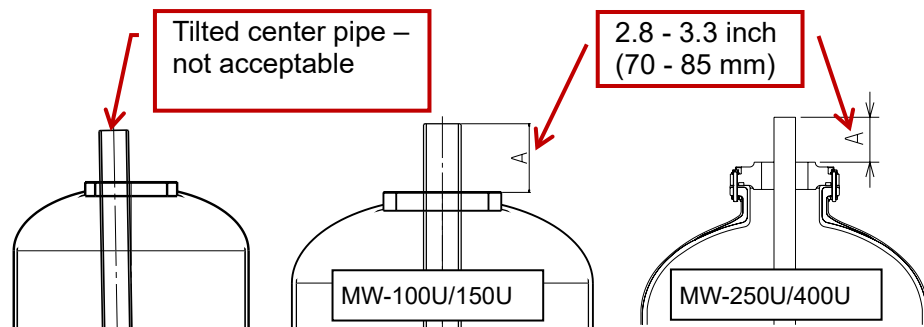

Figure 5-2 Gravel Filling Precautions
- * Do not allow the center pipe to float. The tip of the center pipe should be at 2.8 – 3.3 inch (70 – 85 mm) above the resin tank opening (Figure 5-2 center.right).